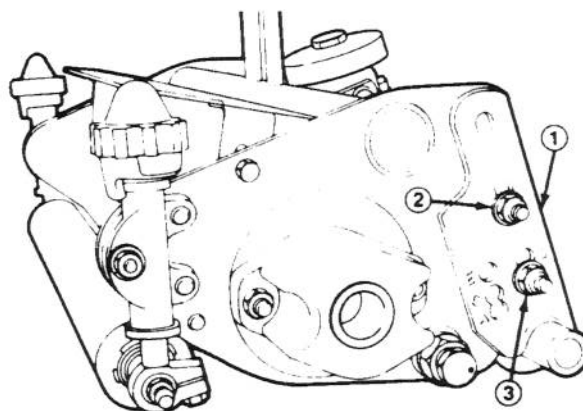

Figure 2
2. Assemble rear height-of-cut brackets to desired position. Loosen top capscrew and nut and remove bottom nut and bolt on right and left hand sides of cutting unit (Fig. 2).